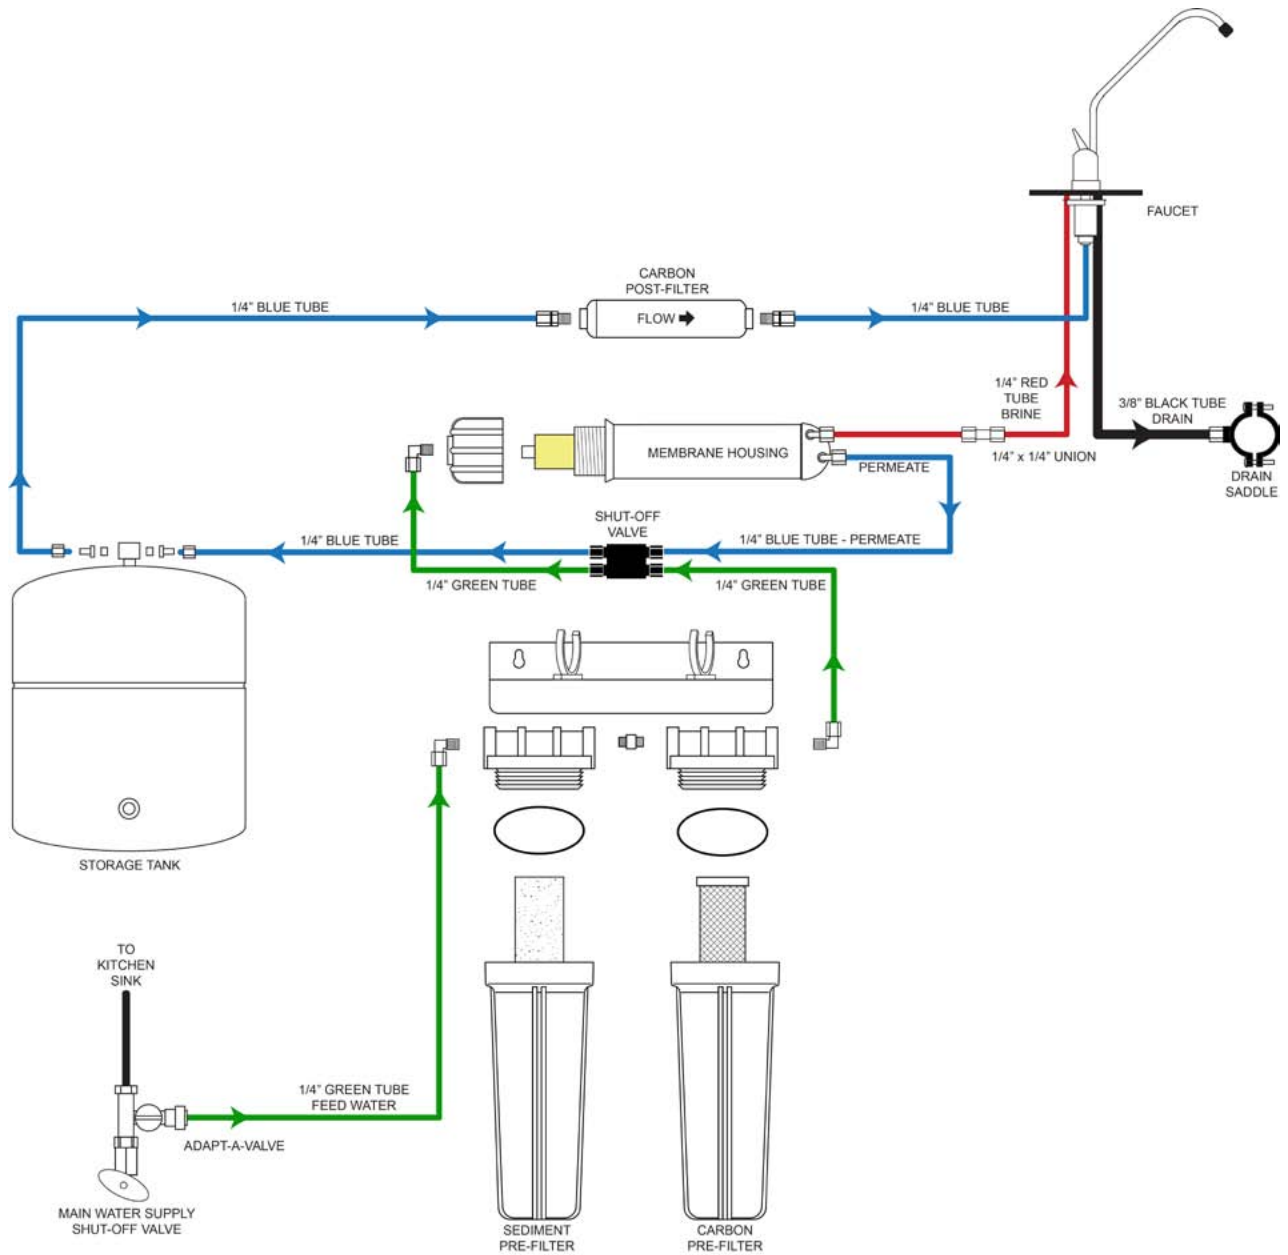

Figure 3: System Diagram
- Step 9** – Your shut-off-valve connections should now match Figure 3